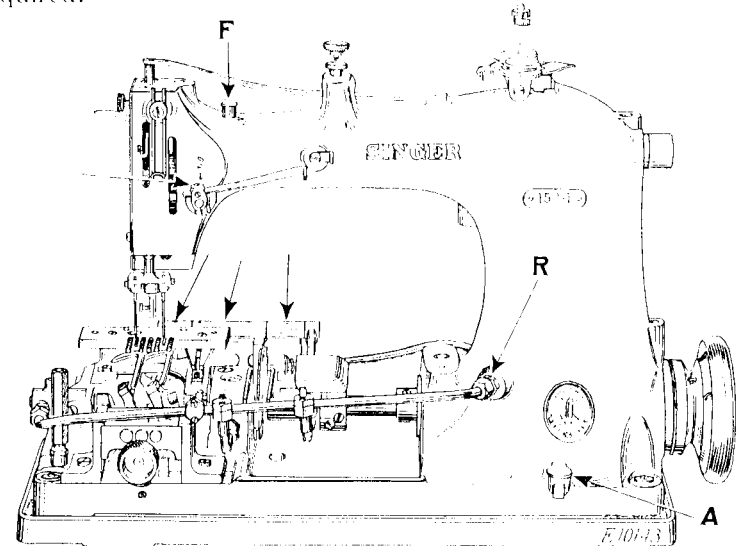

FIG. 5. REGULAR OILING POINTS AT FRONT OF MACHINE
1. Before starting work, fill oil cup (A) until it stands **LEVEL FULL**. The oil level in this cup indicates oil level in the reservoir. **NEVER ALLOW** the level of the oil to go more than $\frac{1}{4}$ inch below the top of the cup when the machine is at rest.
2. Fill oil cup (F, Fig. 5) **LEVEL FULL** twice daily, or as required.
The letter "O" which is marked on each of the oil pipe couplings (R, Fig. 3) and (R, Fig. 5) must always be at the top.